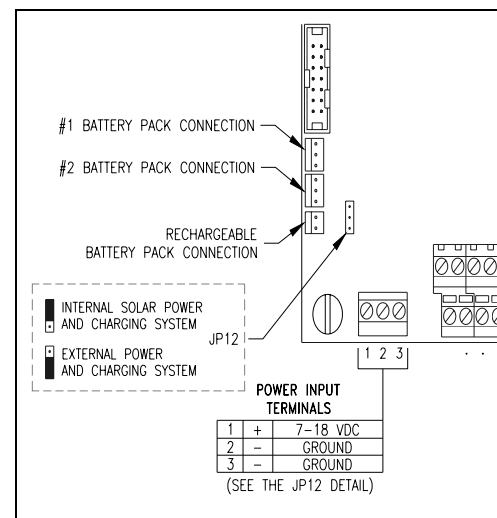

Fig. 1-3 : Power connections
- a. If the unit is battery powered, check the battery pack and connect it to the BATT 1 connector. The optional battery pack connects to the BATT 2 connector (Fig. 1-3 on page 8). Go to step 4.
- b. If the unit is line powered, make sure that jumper JP12 is in the down position (PS) for power supply and connect the DC power input to the DC input screw terminals 1 (V+) and 2 (GND). (Fig. 1-3 on page 8).